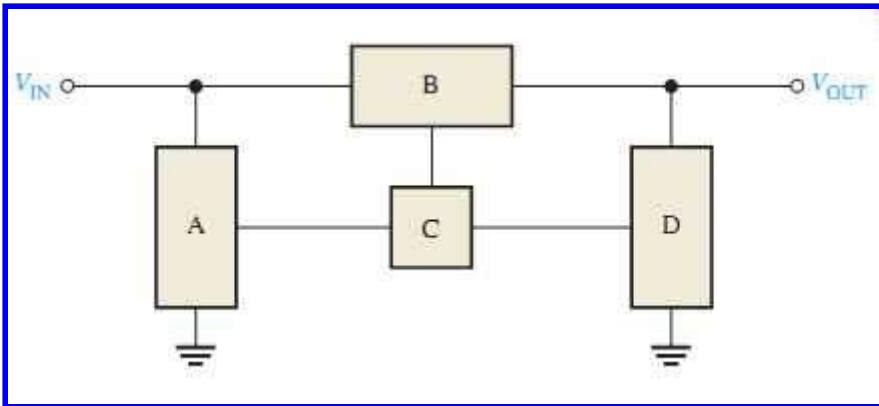

FIG. 44
5. Label the functional blocks for the voltage regulator in FIG. 44.